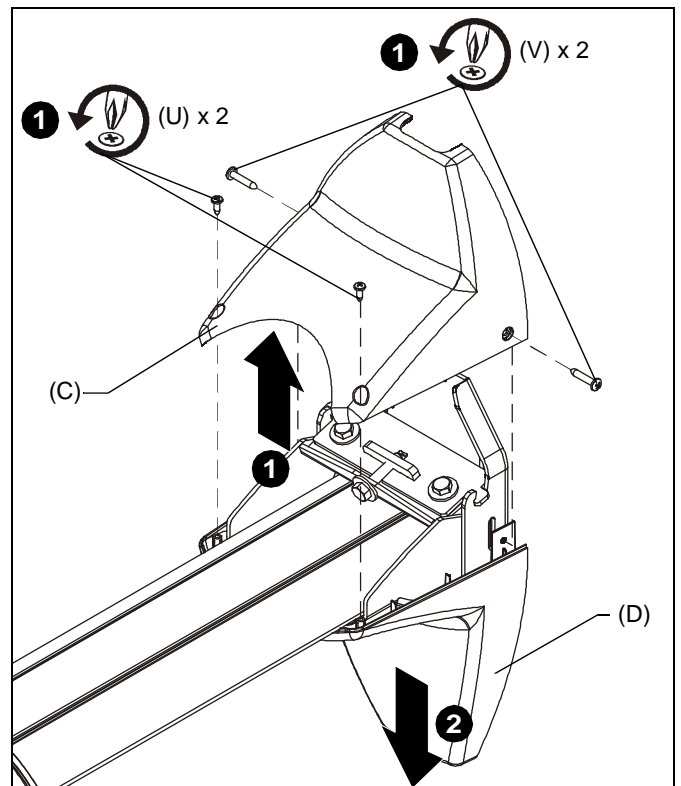

Figure 21
1. Remove two #8 x 1/2" Phillips pan tapping screws (U) and two #10 x 1" Phillips pan tapping screws (V) to free top cover (C) and expose pitch adjustment screw. (See Figure 21)
2. Remove lower cover (D) from PRJ-WALLKIT-11. (See Figure 21)